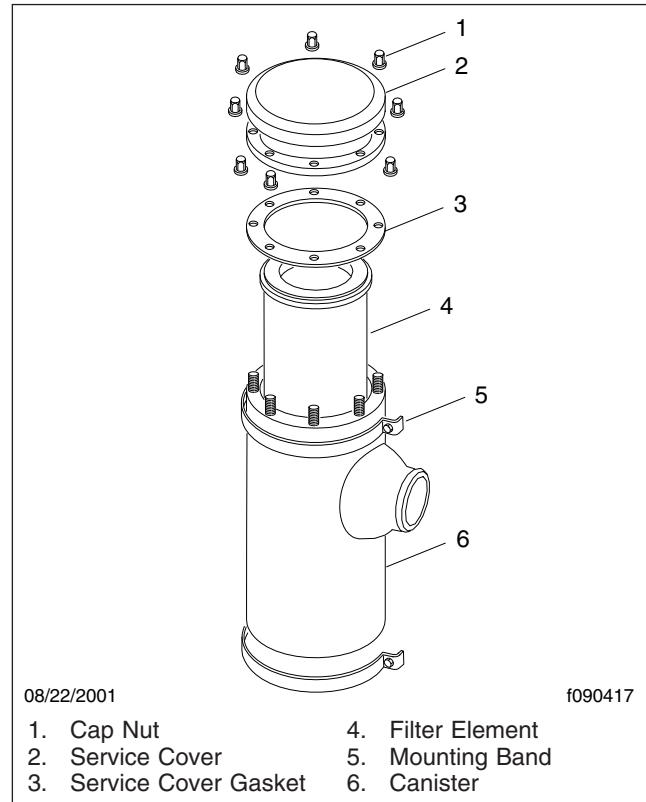

Fig. 13, Cowl-Mounted Air Cleaner
1. Remove the cap nuts that secure the service cover to the canister. See Fig. 13. Take note of the orientation of the air intake screen so the service cover can be reinstalled in the correct position.